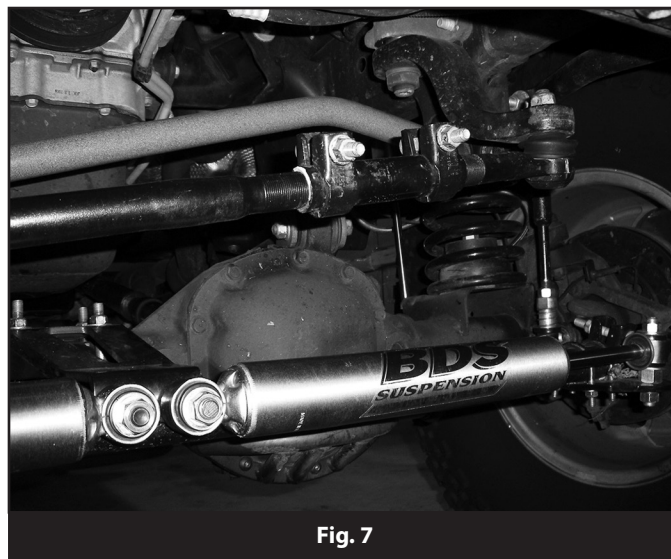

Fig. 7
13. Check for appropriate clearance of all other suspension components in relation to the stabilizer system. This system was developed on a vehicle with a 4" BDS Suspension lift system installed. Other manufacturer/lift setups may vary. Rotate steering clamps up, rotate the clamps only - not the adjusting sleeve, this will eliminate any chance of interference with stabilizers. (Fig 7)